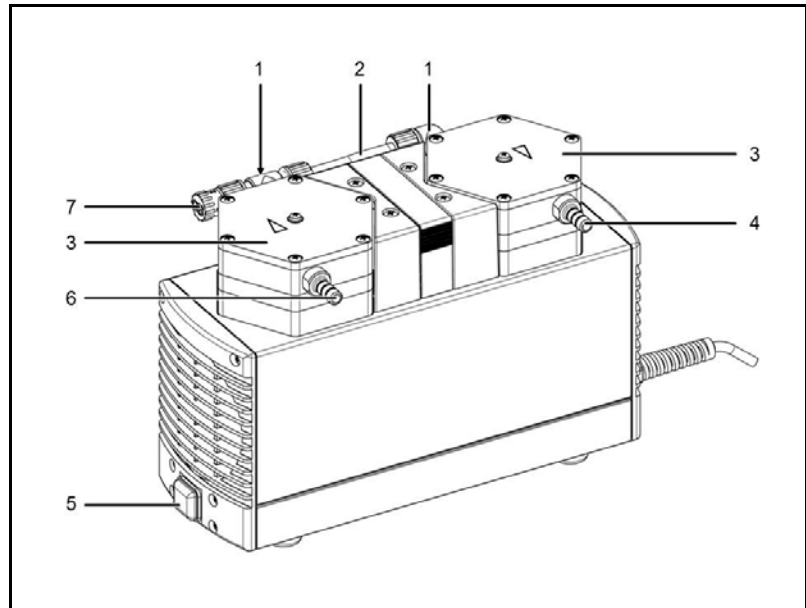

Fig. 3: Diaphragm pump (shown: pump N 840.3 FT.18G)
1. Disconnect the tubes in the inlet (Fig. 3/6) and the outlet (4) of the pump.
2. Open the connection (2) of the pump heads.
3. Screw out the connecting piece (1) of the vacuum side head.
5. Remount the connection (2) between the both pump heads.
- ➔ Switch on pump with mains switch (see Fig. 3/5)
- ➔ Switch off pump with mains switch (see Fig. 3/5).